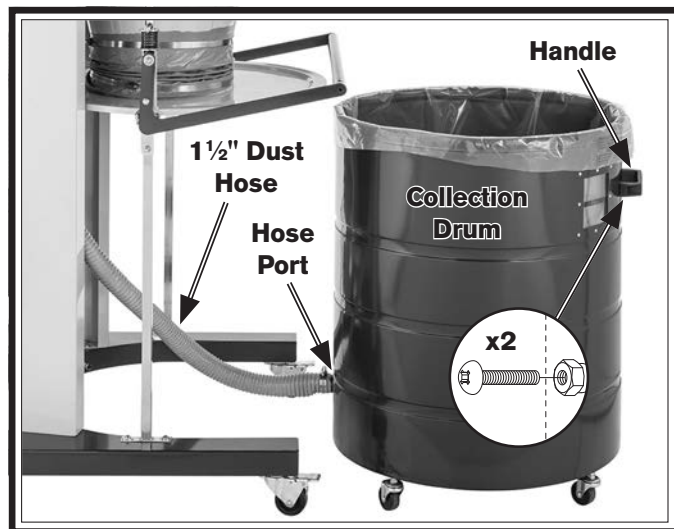

Figure 20. Collection drum assembled and connected to dust hose.
21. Attach handle to collection drum using (2) $\frac{1}{4}$ "-20 x $\frac{5}{8}$ " Phillips head screws and (2) $\frac{1}{4}$ "-20 acorn nuts (see **Figure 20**).
22. Attach $1\frac{1}{2}$ " hose to hose port on collection drum with $1\frac{1}{2}$ " hose clamp (see **Figure 20**).